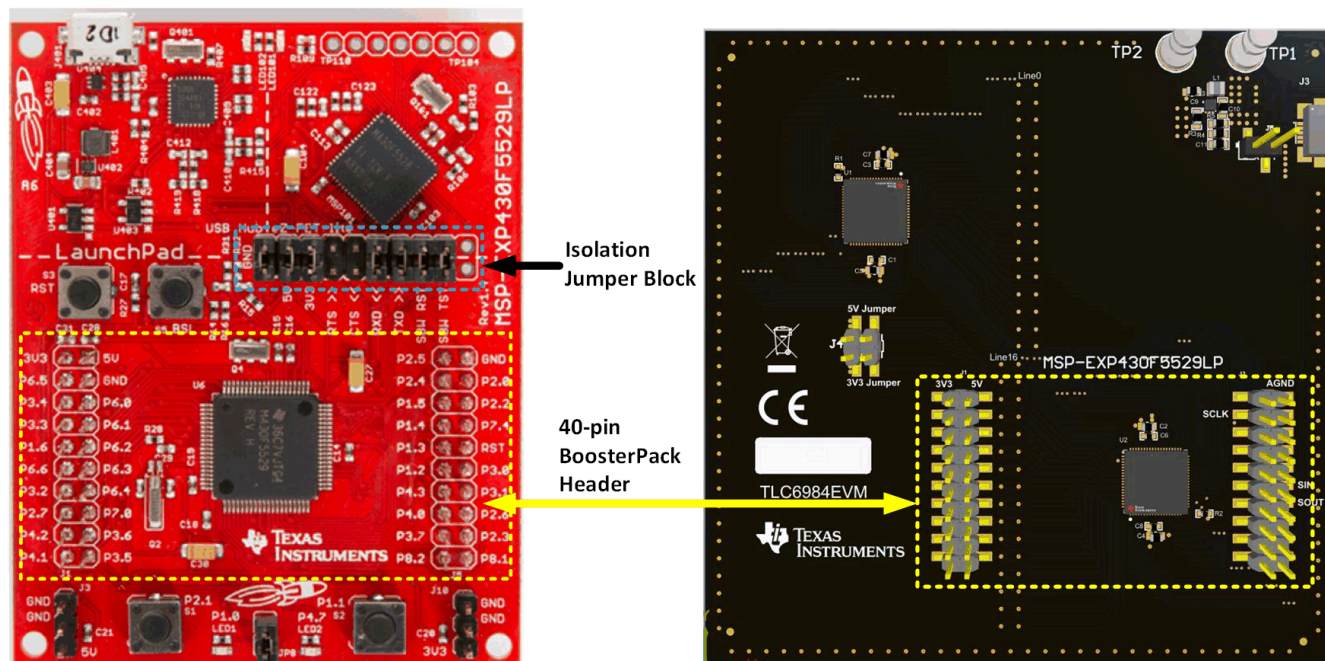

Figure 3-1. TLC6984EVM and MSP430F5529 LaunchPad™ Connector Pinout
- b. Connect boosterpack connectors (J1, J2 on EVM board) with the MSP430F5529 LaunchPad. Figure 3-1 shows the connection method.